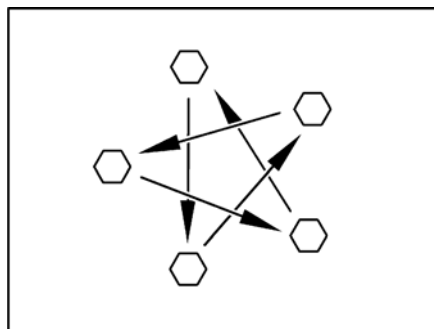

Fig. 319 Tighten the wheel nuts or wheel bolts cross-wise
- Check regularly that the wheel nuts or wheel bolts are firmly seated. Re-tighten the wheel nuts or wheel bolts of a changed wheel cross-wise (Fig. 319) after 50 km (30 miles).
- ▶ Tighten the wheel nuts or wheel bolts cross-wise (Fig. 319).